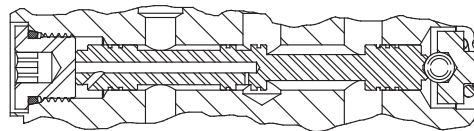

FIGURE 3
1. Remove plug (1) from charging valve.
2. Use a pencil magnet and remove spool (2) from charging valve.
3. Be sure new parts are clean and free of all contaminants before assembling. Install new spool (2) in charging valve. Note direction of spool (2). See Figure 3.
4. Install new plug (1) in charging valve and torque 27.1-32.5 N·m (20-24 lb·ft).